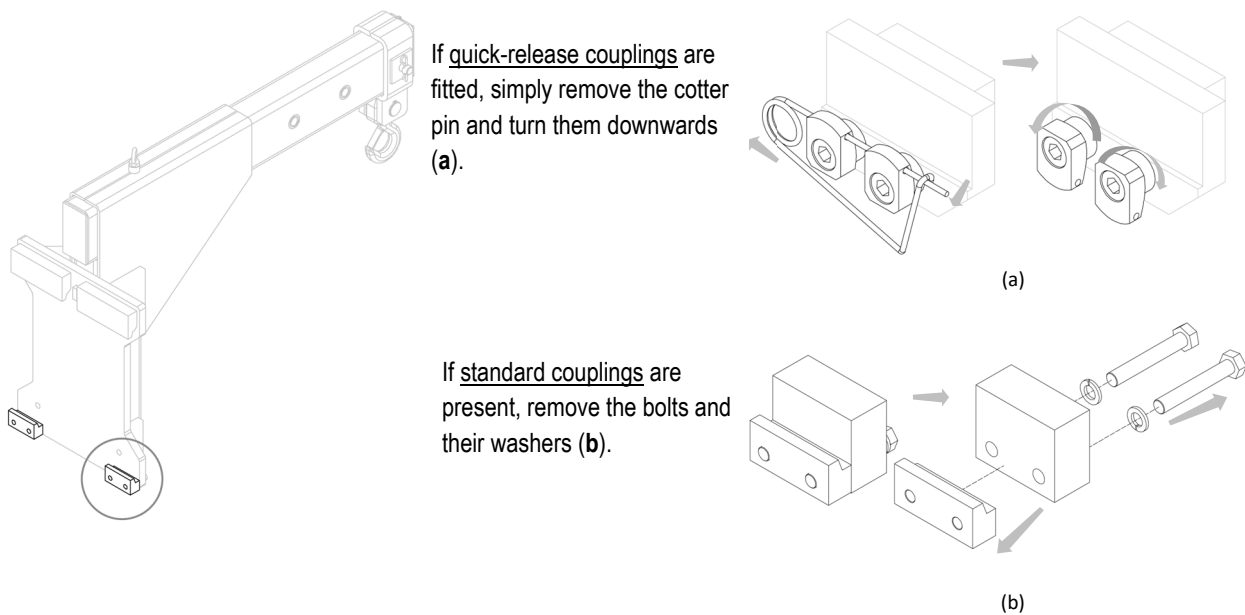

Figure 3
3. Remove the lower couplings from the equipment (see *Figure 3*).
1. Remove the lower couplings from the structure (see *Figure 3* on page 10).